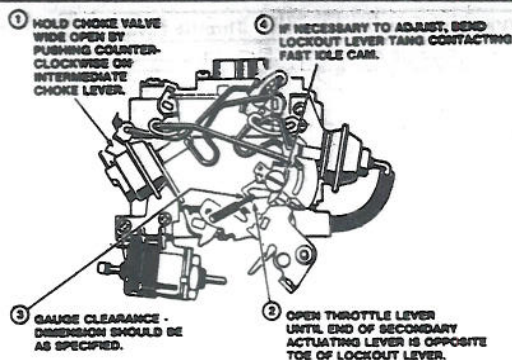

Fig. 20 Secondary lockout adjustment (Typical). 2SE & E2SE carburetor
2. Position throttle lever until end of secondary actuating lever is opposite toe of lockout lever, Fig. 20.